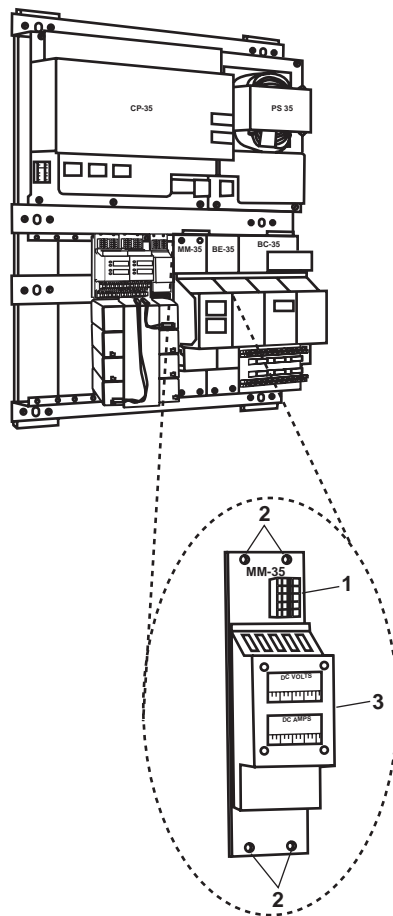

Figure 5. Meter Module MM-35 Replacement
2. Label and disconnect the electrical wiring from P1 (figure 5, item 1).
3. Remove the four screws (figure 5, item 2) that secure meter module MM-35 (figure 5, item 3), and remove it from the enclosure.
1. Position meter module MM-35 (figure 5, item 3) in the enclosure and secure it with the four screws (figure 5, item 2).
2. Connect the electrical wiring to P1 (figure 5, item 1) using the labels from step 2 of Removal as a guide. Remove the labels.